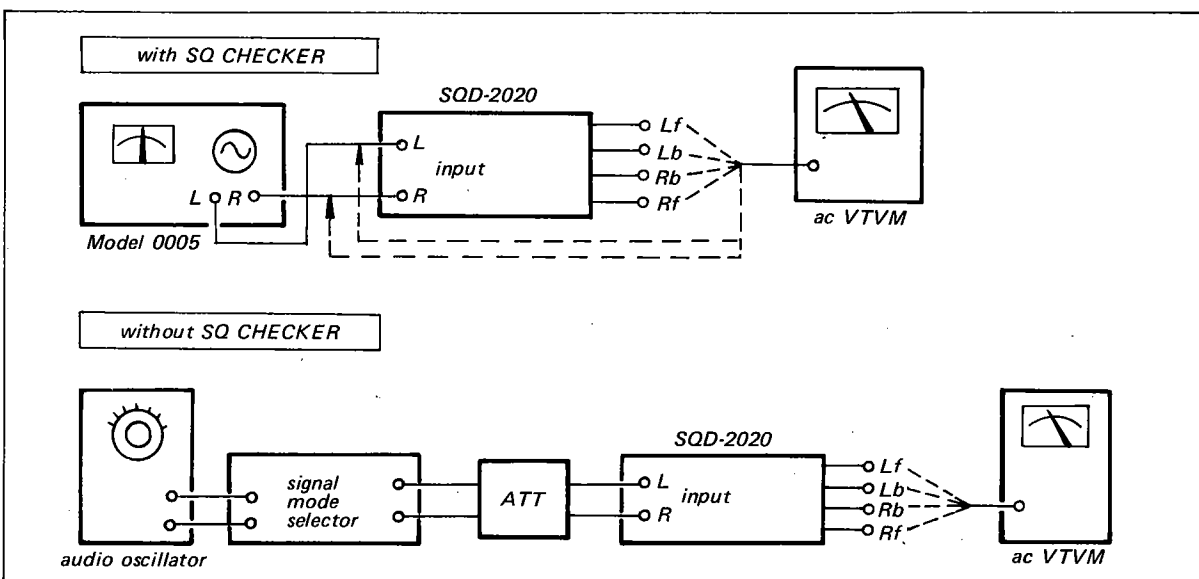

Fig. 3-3. SQD-2020 check and adjustment test setup
1. Fig. 3-3 shows the test equipment connections.
2. With the equipment connected as shown in Fig. 3-3, feed a 2 kHz, -10 dB signal to
2. With the equipment connected as shown in Fig. 3-3, feed a 2 kHz, -10 dB signal to the "FROM REC OUT" jacks (L and R channels).